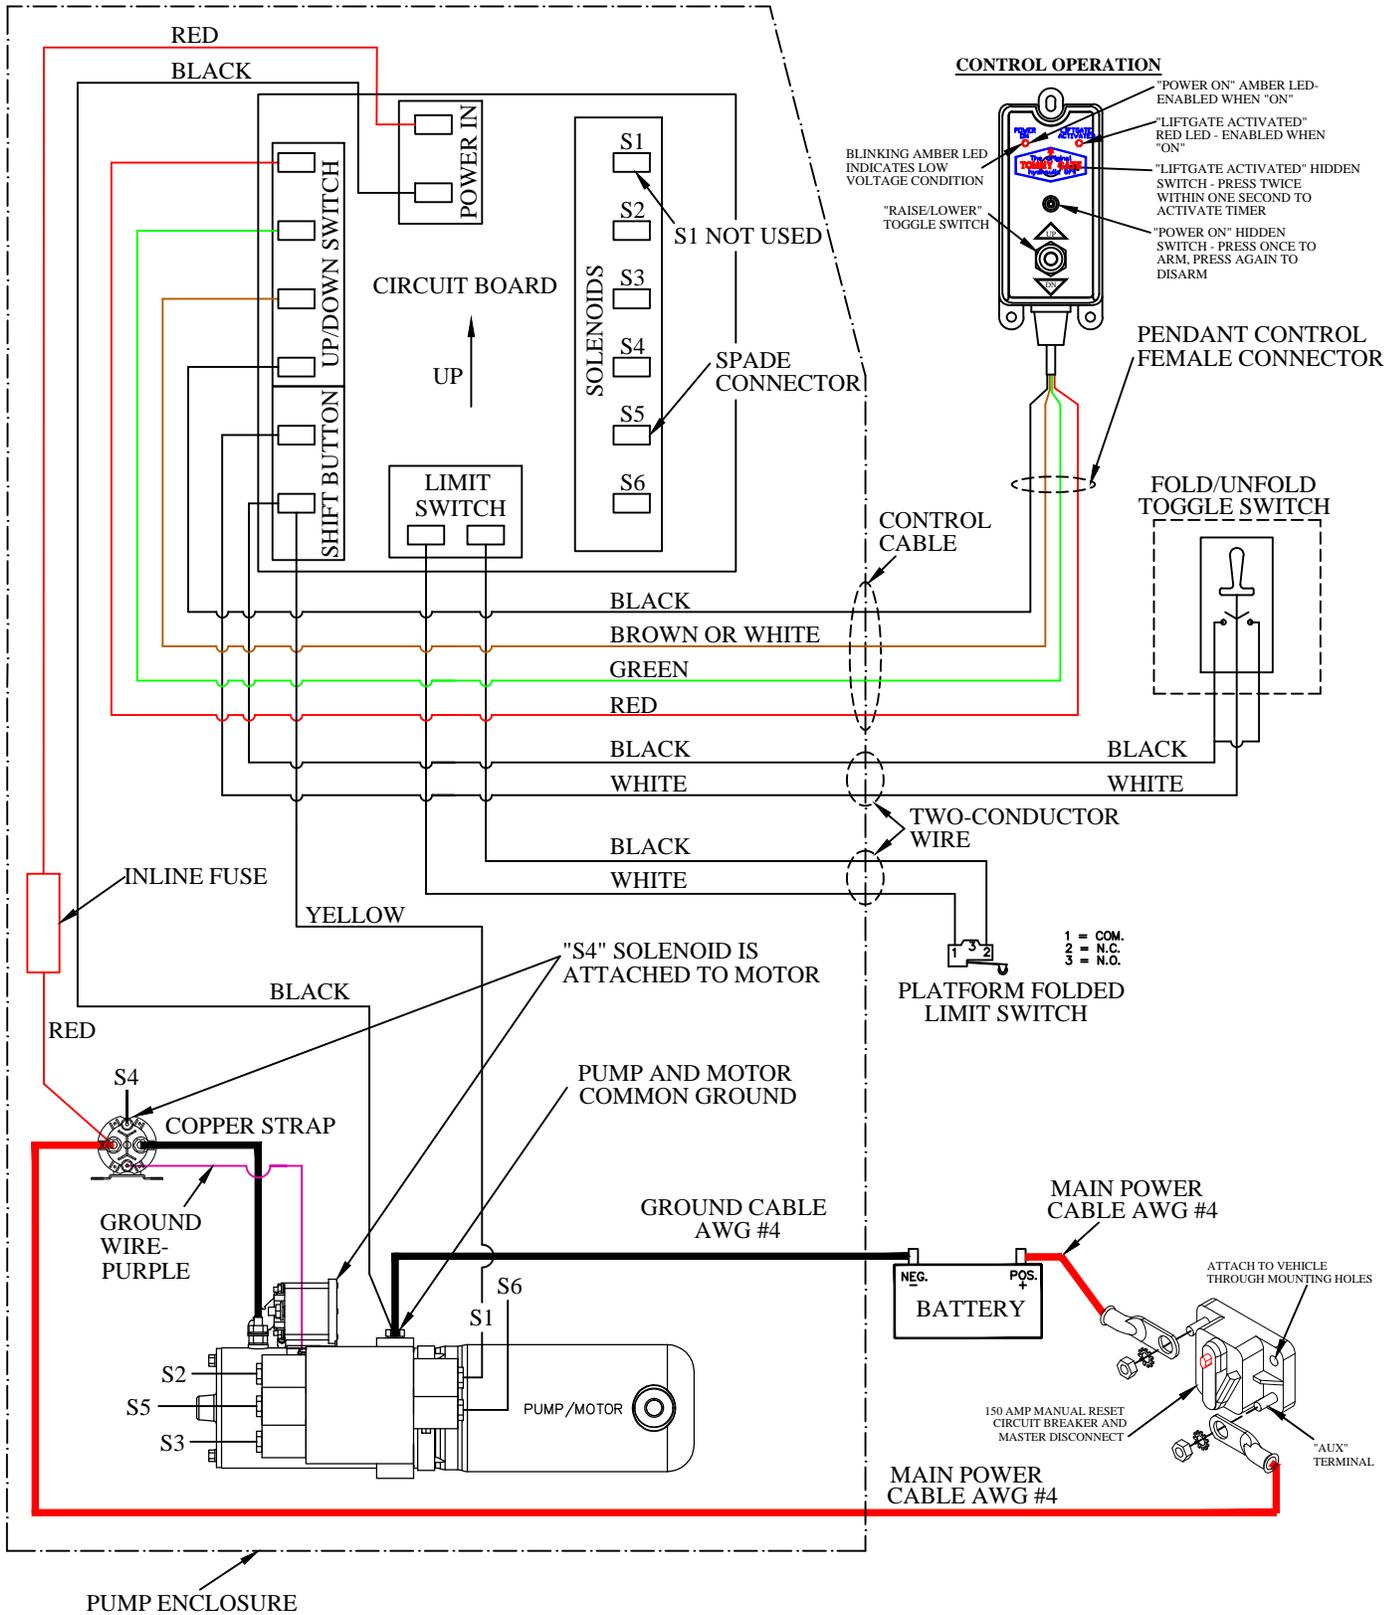

Figure 13: Wiring diagram.
9. Connect the circuit breaker and battery as outlined in the *Tommy Gate Recommended Electrical Wiring Guidelines* and wiring diagram (Figure 13).
10. Mark the two (2) small holes to be drilled in the door pillar using the mounting bracket as a guide.
12. Drill two (2) 13/64" holes in the locations previously marked.
14. Connect the wires to the toggle switch (Figure 13).
16. Install the supplied two (2) 1/4-20 self-tapping screws, through the female connector, through the mounting bracket, and into the door pillar.